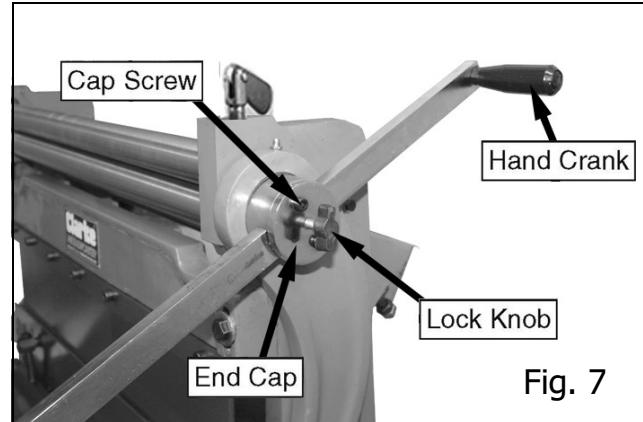

Fig. 7
3. Insert the hand crank into the slot (see Figure 7).